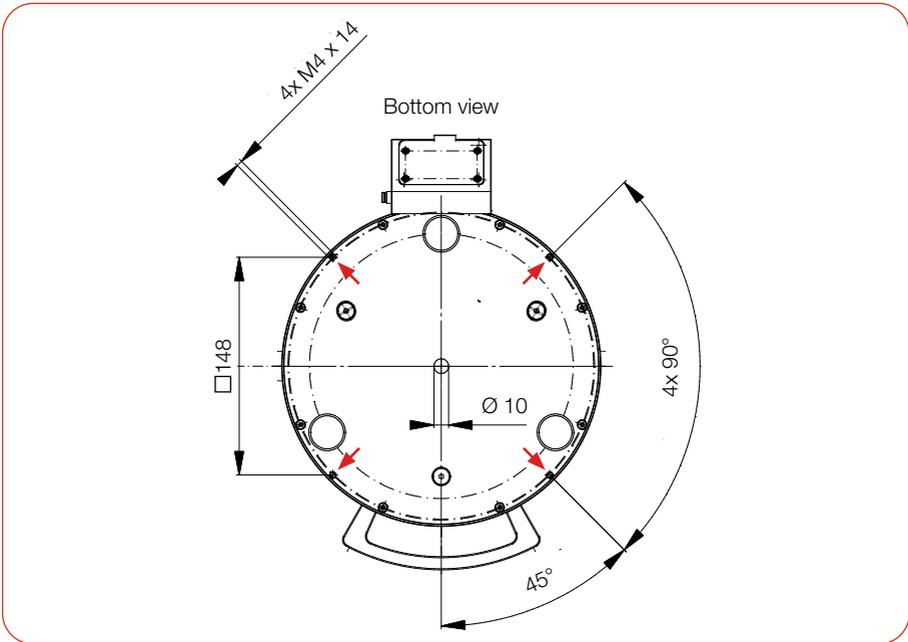

Fig. 6.3: Mounting threads in the housing (dimensions in mm)
1. Mount the device on the mounting threads according to Fig. 6.3 on page 23. The total length of the screws depends on the dimensions of the customer's mount.